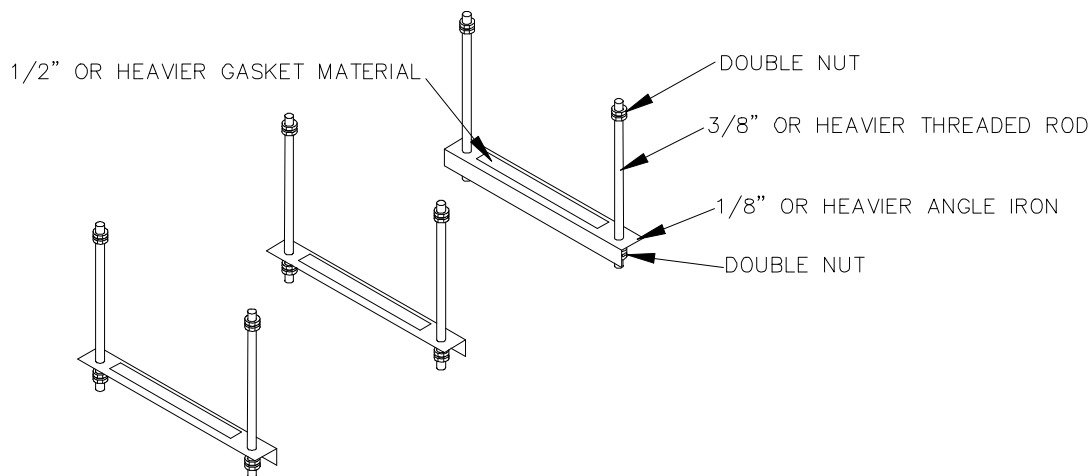

Figure 1: Recommended Support Frame for Horizontal / Counterflow Furnaces
The horizontal / counterflow model may be mounted on a level surface, as described above, or it may be suspended from an overhead structure or surface. If this model is suspended from hanger rods, **support the furnace from the bottom casing surface at three (3) places**, across both ends of the casing and across the casing, near the middle of the furnace. Generally, a simple support frame for the furnace can be fabricated from structural steel angle, threaded steel rod, and fastener hardware, refer to Figure 1. Adjust the height of the support angles to level the unit in position.